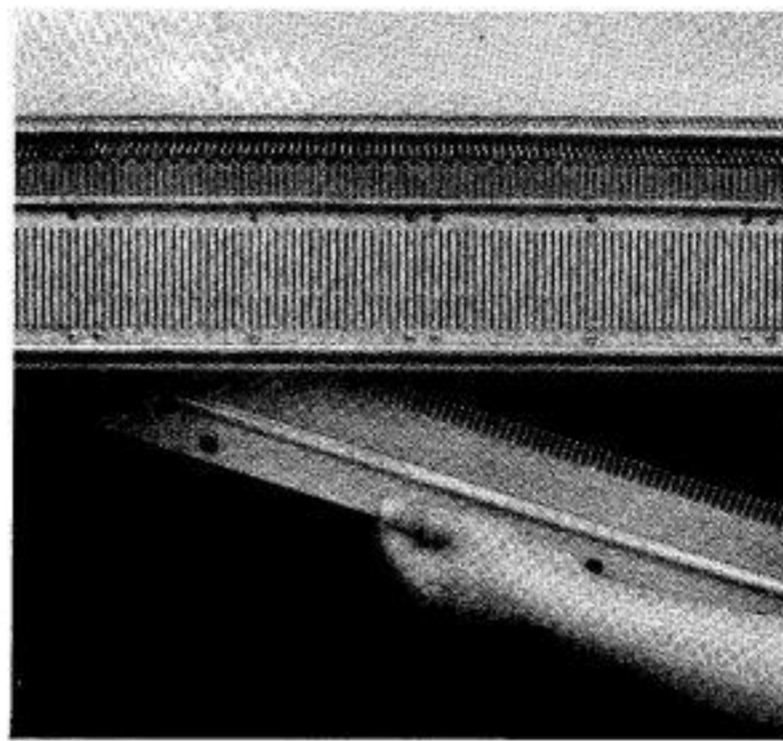

Fig. 39
6. Withdraw the wire from a cast-on comb and push the comb upwards between the two needle beds, as shown in Fig. 39, until the teeth pass through the zig zag mesh formed by the yarn, ensuring that the comb is placed centrally on the mesh.